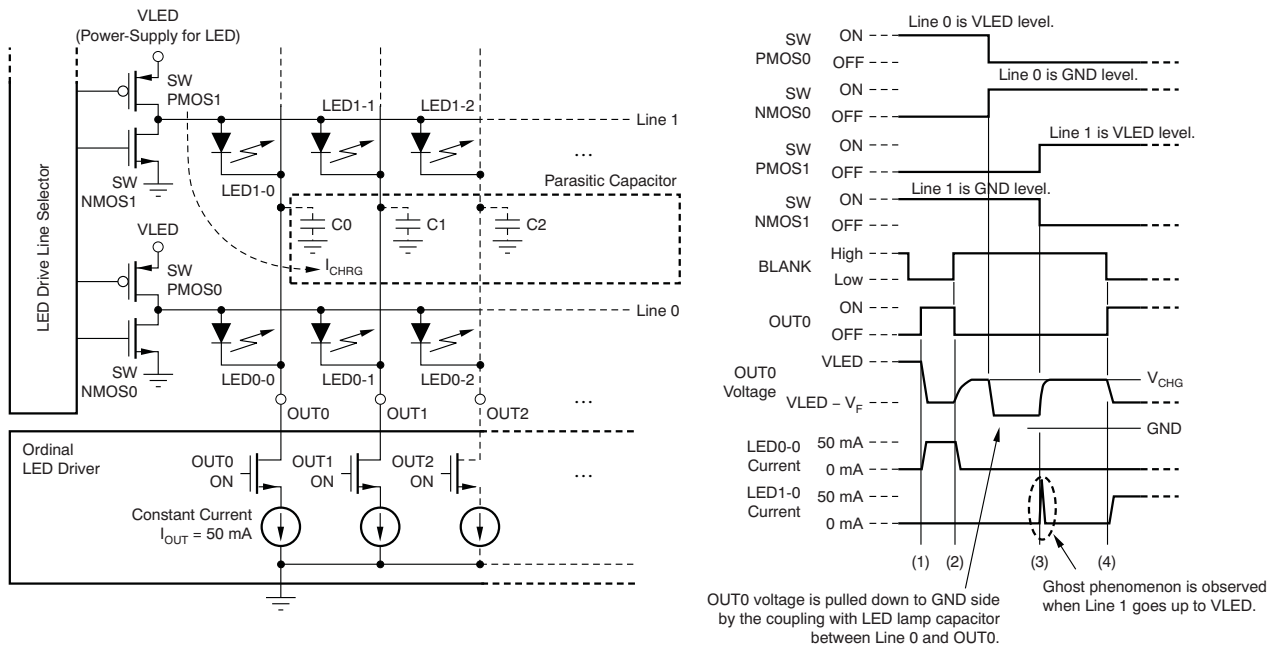

Figure 33. LED Ghost-Lighting Phenomenon Mechanism
The internal pre-charge FET can prevent ghosting of multiplexed LED modules. One cause of this phenomenon is the charging current for parasitic capacitance of the constant current output line and driver through the LED. One of the mechanisms is shown in Figure 33.
In Figure 33, the constant current driver turns LED0-0 on at (1) and off at (2). After LED0-0 is turned off,  $\text{OUT}_0$  voltage is pulled up to  $V_{\text{CHG}}$  by LED0-0. This  $\text{OUT}_0$  node has some parasitic capacitance (such as the constant current driver output capacitance, and the board layout capacitance shown as C0-2). After LED0-0 turns off, SWPMOS0 is turned off and SWNMOS0 is turned on for LINE0, then LINE0 is pulled down to GND. Because there is a parasitic capacitance between LINE0 and  $\text{OUT}_0$ ,  $\text{OUT}_0$  voltage is also pulled down to GND. After that, SWPMOS1 is turned on for next line (LINE1). When SWPMOS1 turns on,  $\text{OUT}_0$  voltage is pulled up from the ground voltage to  $V_{\text{LED}} - V_F$ . The charge current ( $I_{\text{CHRG}}$ ) flows to the parasitic capacitor (C0) through LED1-0, causing the LED to briefly turn on and creating the ghosting effect of LED1-0.